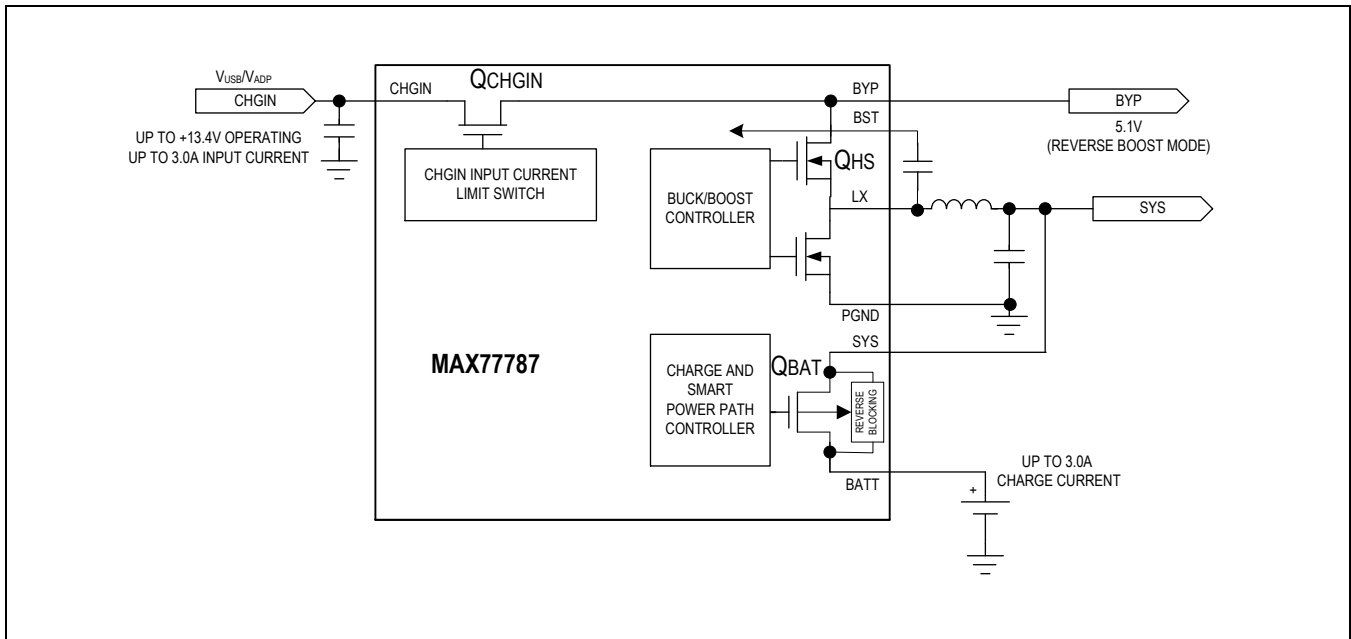
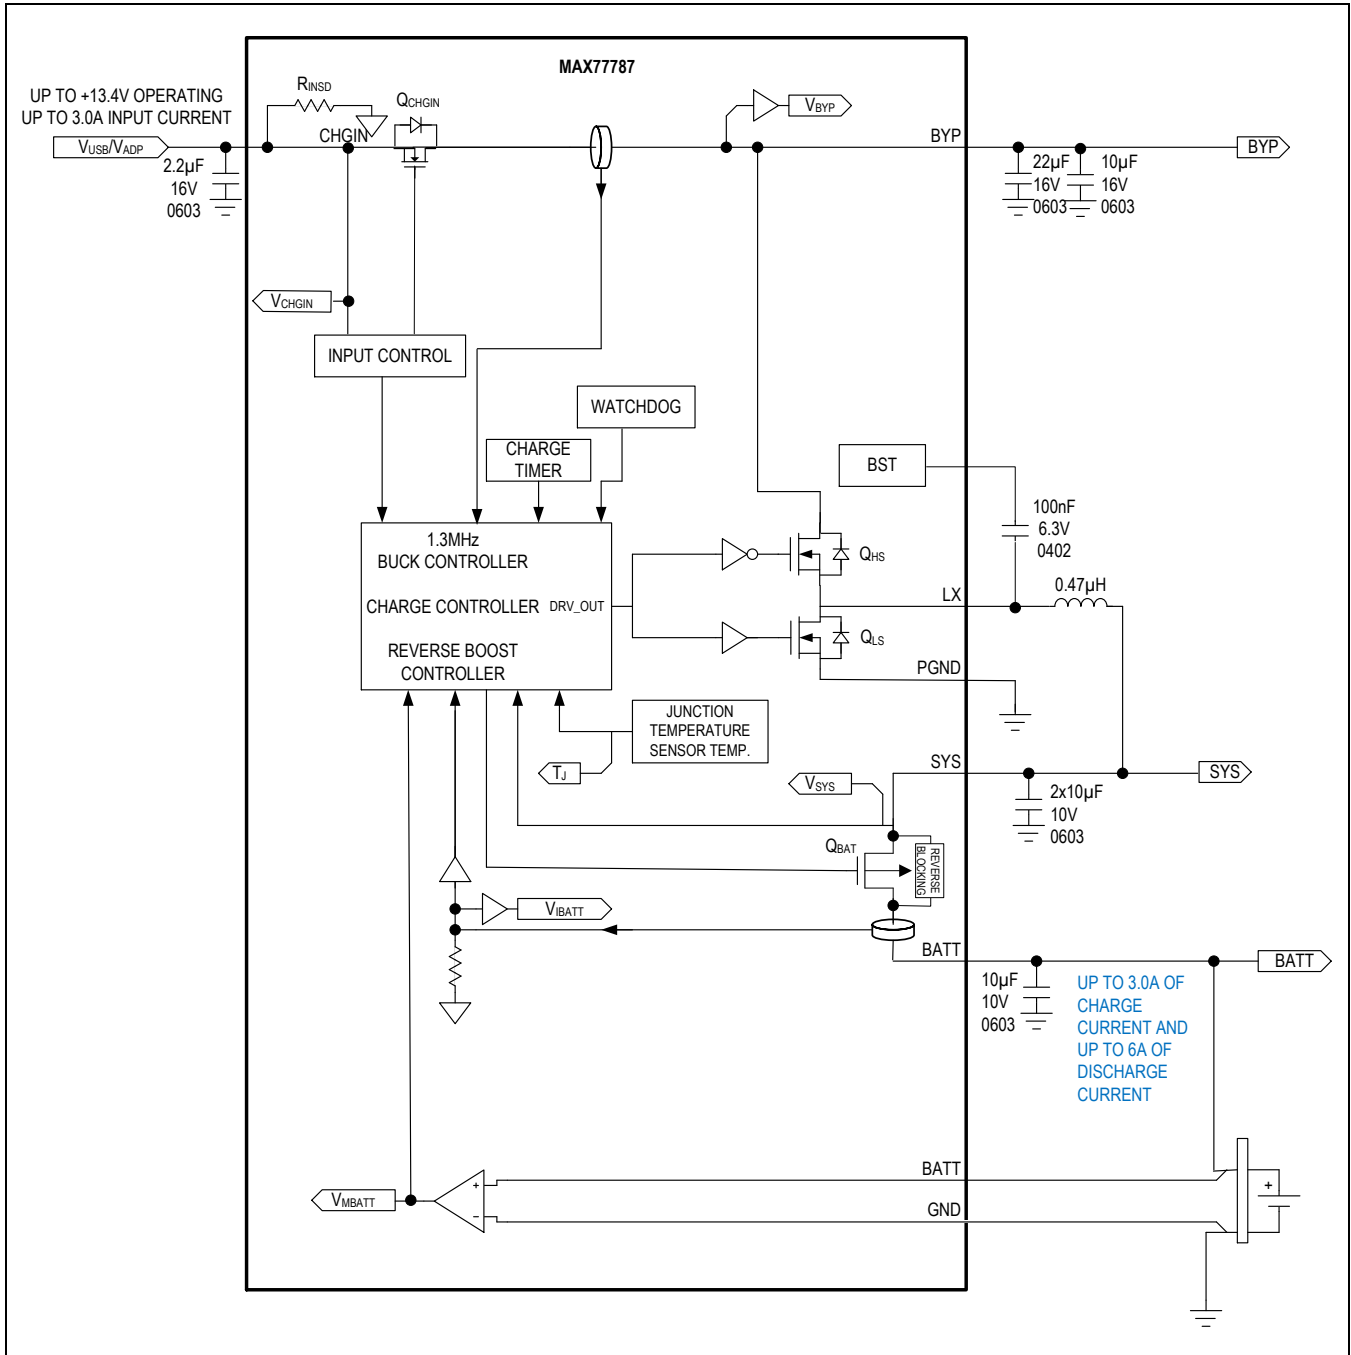

Figure 1. Simplified Functional Diagram
Figure 2. Main Battery Charger Detailed Functional Diagram
The IC is a switch-mode charger for a one-cell lithium-ion (Li+), lithium polymer (Li-polymer) battery, or LiFePO₄ battery. As shown in Figure 2, the current limit for CHGIN input is automatically configured allowing the flexibility for connection to either an AC-to-DC wall charger or a USB port.
Figure 1 shows a simplified arrangement for the Smart Power Selector's power steering switches. Figure 2 shows a more detailed arrangement of the Smart Power Selector switches and gives them the following names: Q_{CHGIN}, Q_{HS}, Q_{LS}, and Q_{BAT}.
- CHGIN Input Switch: Q_{CHGIN} provides the input overvoltage protection of +16V. The input switch is either completely on or completely off. As shown in Figure 2, there are SPS control loops that monitor the current through the input switches as well as the input voltage.